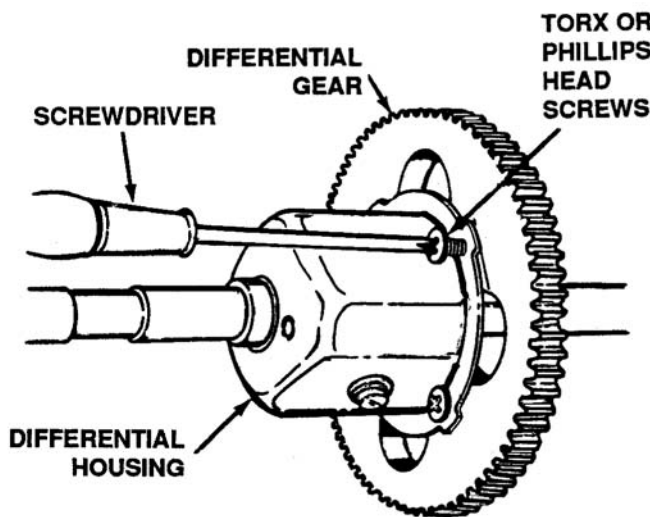

Figure 6-18. Differential Gear and Housing
15. With a phillips or torx screwdriver (depending on the year) remove the four screws holding the differential gear to the differential housing. See Figure 6-18.